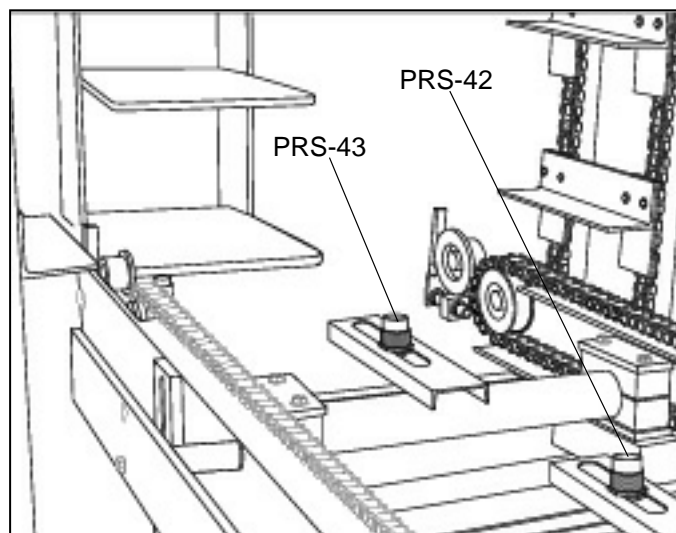

Figure 2.17 PRS-42 AND PRS-43.
2.2.2.2 Adjust PRS-42 (figure 2.17) so that pallet is clear of Accumulator conveyor when switch is tripped and released, if PRS-43 is not covered.
2.2.2.3 Adjust PRS-43 (figure 2.17) 1/4" [6.3mm] below pallet sitting on chain. PRS-43 is a safety switch. If PRS-43 is tripped, Accumulator will not move.